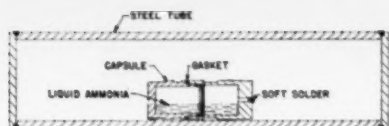

Fig. 1—Method of using an ammonia filled capsule for pressure nitriding the inner surface of tubes.
We have used two general methods of pressure nitriding with equal success; in one case the ammonia is introduced into the vessel in the liquid state and in the vapor state in the other. The choice of the method depends on the type of parts to be nitrided. Fig. 1 shows the arrangement used for nitriding the inner surface of alloy steel tubes. In this case, the ammonia is introduced by means of a small steel capsule containing the proper quantity of liquid ammonia to nitride the inner wall of the tube to the depth desired. The cover of the ammonia capsule is drilled with a small hole which is plugged with a low melting point solder. The ammonia capsule is then placed into the steel tube and end plates, or plugs, are welded onto the tubes as shown. As the tube is heated in the furnace, the soft solder melts and the ammonia vaporizes and expands throughout the interior of the tube to be nitrided. Other methods of releasing ammonia from the capsule, as a result of pressure, temperature, or mechanical manipulations, can be utilized—but the soft solder plug has proven entirely satisfactory. Such tubes can be rotated on
When introducing ammonia in a liquid state, as shown in Fig. 1, it is necessary to have information regarding the pressure obtained at the nitriding temperature with a given vapor density, or specific volume, of superheated vapor at the nitriding temperature. Fig. 4 shows the relation between density and pressure of superheated ammonia vapor for densities ranging from zero to 0.7 lbs. per cubic foot. This curve was obtained by the extrapolation of published data on the thermodynamic properties of ammonia^{(5) (6)} which are limited to a temperature of approximately 400° F. The actual pressures obtained will be somewhat higher because of increasing dissociation of ammonia at higher temperatures. The reaction of equations (A) and (B) indicate that the pressures shown in Fig. 4 could reach values twice as great as those shown if the ammonia dissociated completely into N_2 and H_2 inasmuch as there are twice as many gas molecules after complete dissociation. However, even with complete dissociation, the pressure could double only if there were no combination of nitrogen with the steel to be nitrided and no loss of hydrogen by diffusion. In practice, we have not observed pressure increases more than 11% above the values shown in